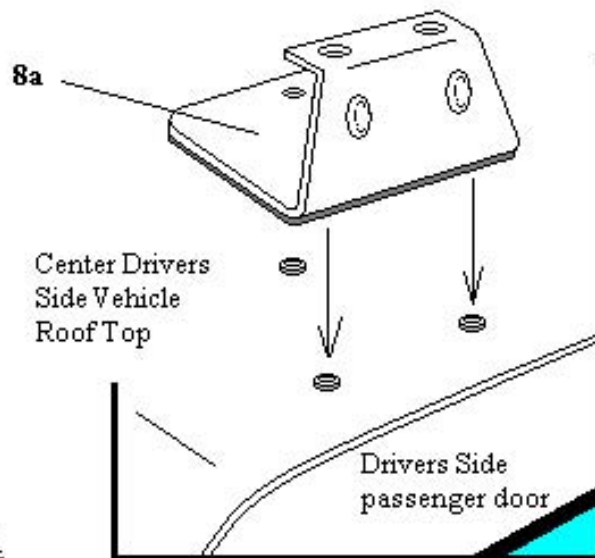

Fig. 2
- 3- Refer to page 5 Fig. 4 and assemble together all roof rack mounting brackets 8, 8a and 8b a passenger and drivers side bracket of each. Begin by attaching bracket 8 "Rear Drivers Side" as shown in Fig. 3 page 5 lay the padded side of the mounting bracket on the vehicle roof top with mounting holes faced towards the vehicle center, then use the 6mm x 35mm screws and water proof washers (black rubber side down) located in **Plastic Bag #3** supplied with your kit and thread screws first through the mounting bracket then into the roof top threaded inserts. Do not fully tighten the screws at this time, leave screws loose enough for mounting bracket adjustment. Continue the same procedure to Fig. 2 and Fig. 1 page 5, then continue to the passenger side and complete the remaining 3 bracket attachments in the same manner.